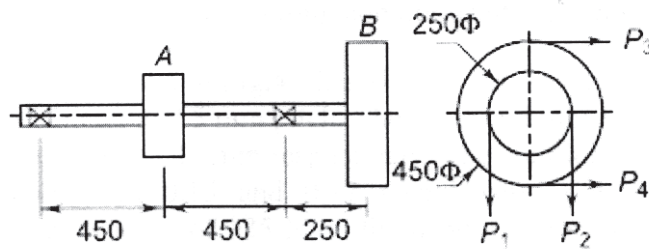

Figure 2
- Q2)** The layout of a transmission shaft carrying two pulleys A and B is shown in Fig. 2. Power is supplied to the shaft by means of a vertical belt on the pulley A, which is then transmitted to the pulley B carrying a horizontal belt. The ratio of belt tension on tight and slack side is 3:1. The limiting value of tension in the belts is 2.7 kN. The shaft is made of plain carbon steel 40C8 ($S_{ut} = 650 \text{ N/mm}^2$ and $S_{yt} = 380 \text{ N/mm}^2$) The pulleys are keyed to the shaft. Determine the shaft diameter according to the ASME code if $k_b = 1.5$ and $k_t = 1$. **[10]**